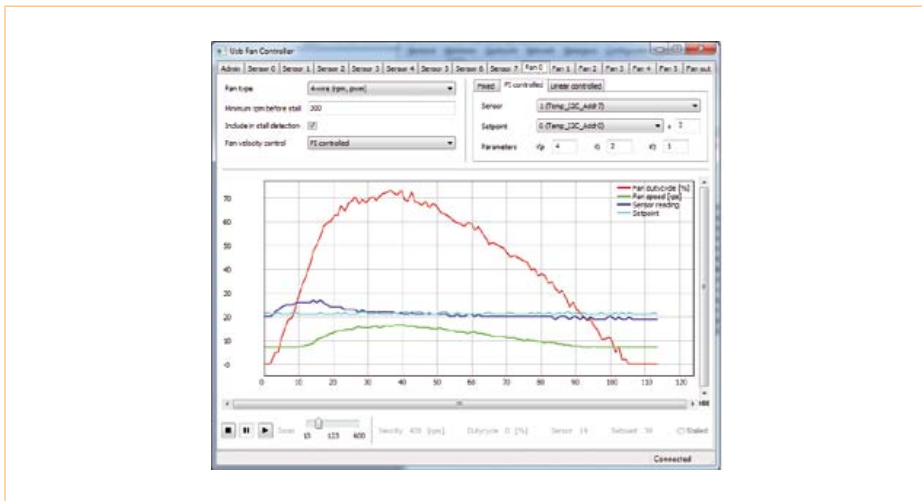

Figure 4. A screendump of the associated PC program that is used for the configuration and monitoring of the fans.
**Figure 4** shows an example of the configuration for Fan 0, which is connected to K1. At the top-left the type of fan (so the soft-